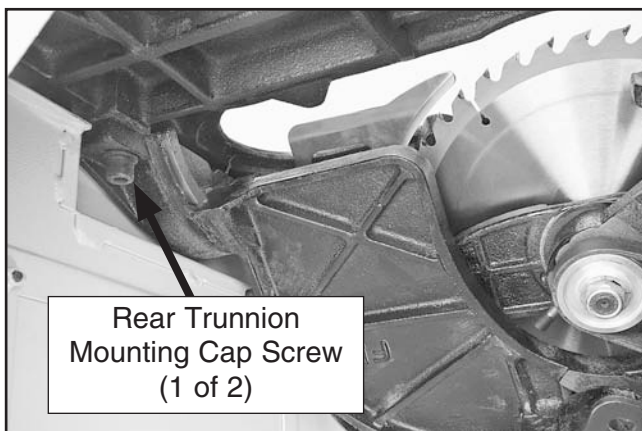

Figure 106. Rear trunnion mount cap screw.
7. To adjust the table, loosen the two cap screws that secure the rear trunnion to the underside of the table 1–1½ turns (see **Figure 106**), and slightly tap the trunnion with a rubber dead blow hammer in the needed direction.